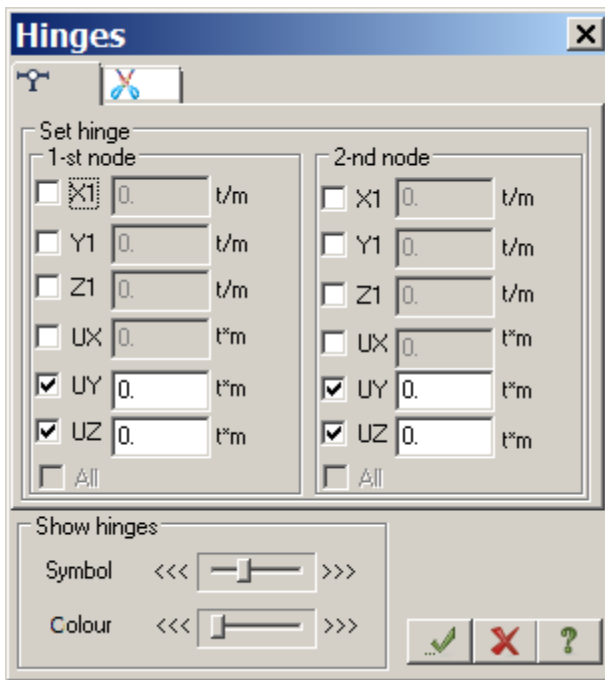

Figure 12.6 Hinges dialog box
- ⇒ In the **Hinges** dialog box (see Fig.12.6), define nodes and directions along which there is no stiffness or there is limited stiffness for the restraint between one of the bar ends and model node. To do this, select appropriate check boxes: